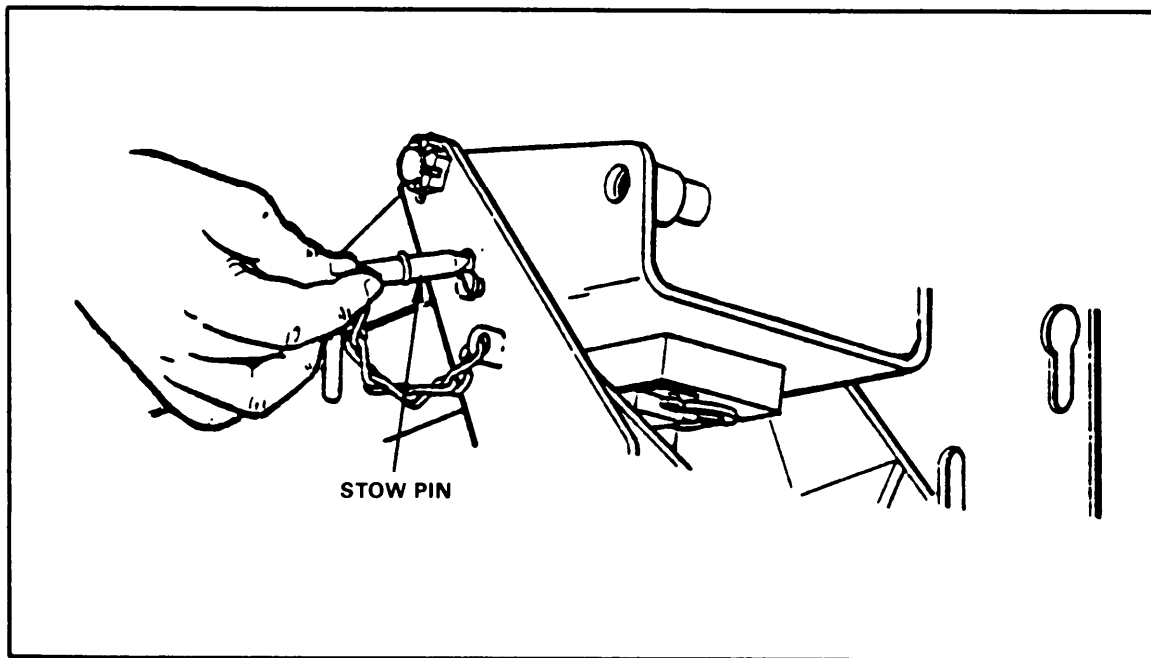

Figure 3-5. Stow pin.
(3) Remove the stow pin from the gun cradle (Figure 3-5).